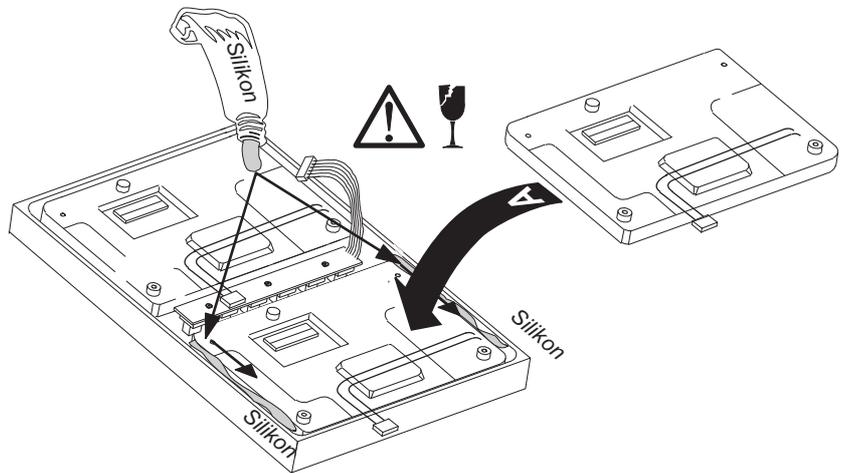

Fig. E 8-29: Mounting the new display
7. Place the new display unit (see Fig. E 8-29, A) and fix it with silicone (see Fig. E 8-29, B).